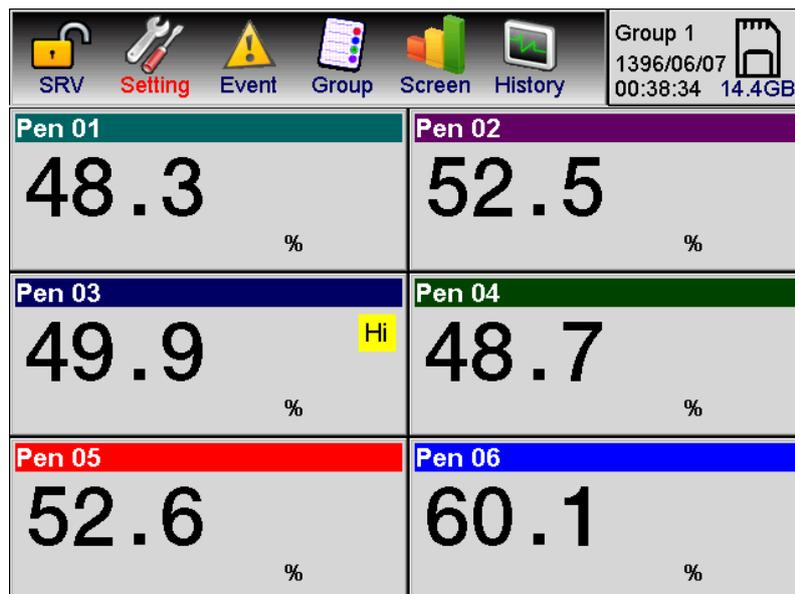

Figure H-3: Displaying alarm in Group indicator
- In the Group Indicator submenu, if there are alarms on any of the pens (as shown in Figures H-3 and I-3), the yellow alarms in Hi and L modes, and the red ones in HH and LL is displayed in the numeric part of the pen with alarms.